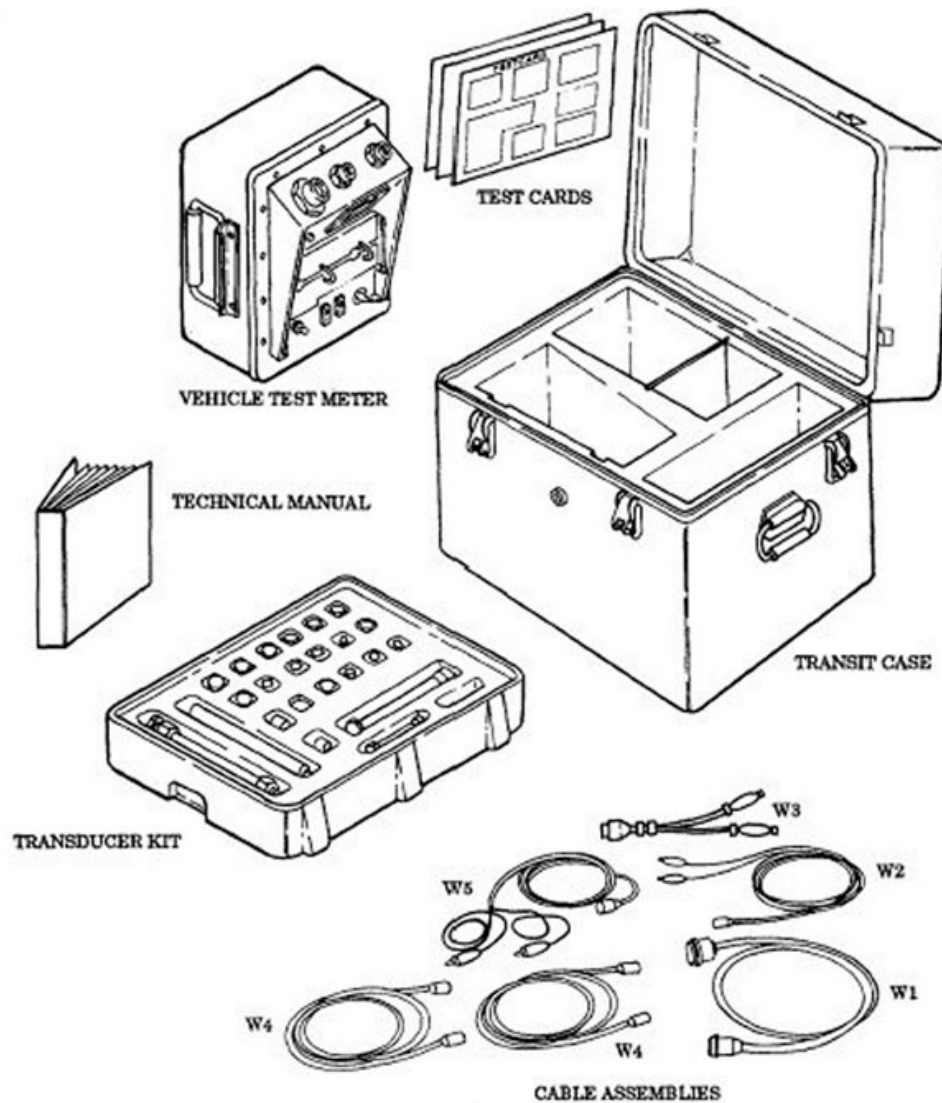

Figure 4-21. STE/ICE system.
vehicle batteries or an equivalent power source. The STE/ICE system (fig. 4-21) consists of a vehicle test meter (VTM), a transducer kit (TK), four electrical cables, a transit case, test cards, and technical publications.